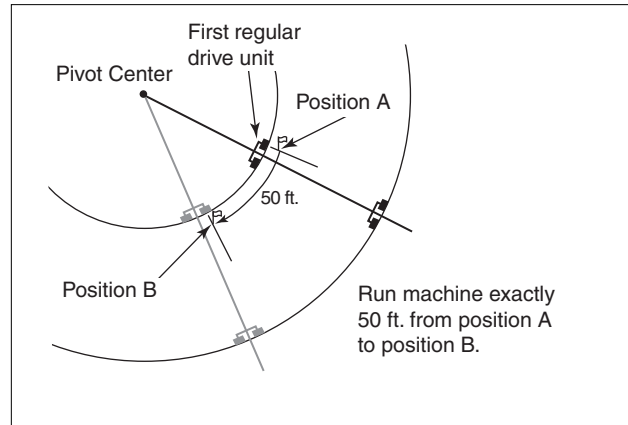

Figure 33-1
2. Place a flag next to the wheel track and in line with the center of the rear wheel on the first regular drive unit. This is position A. Refer to Figure 33-1.